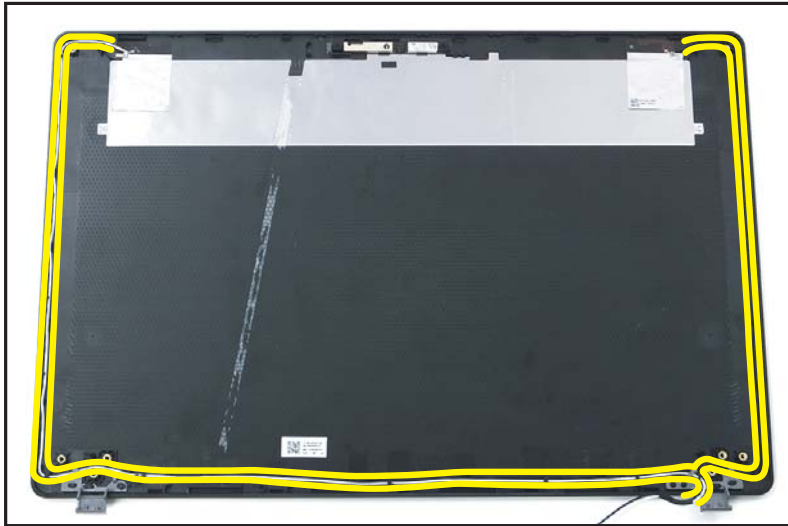

Figure 1-62. WLAN Antenna Removal
1. Unroute the WLAN antennas cables from the cable guides (Figure 1-62).